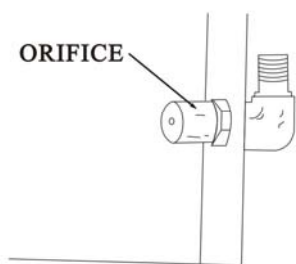
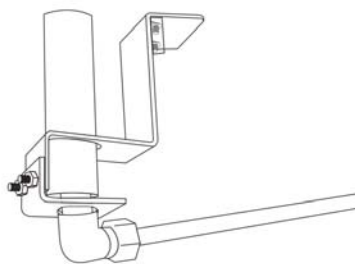

Figure 8
Figure 9
3. Replace the propane orifice (See Fig.8) with the natural gas orifice from the kit and reinstall the orifice holder by tightening the nuts as shown in Fig. 9. Reconnect and tighten the gas tube to the orifice.